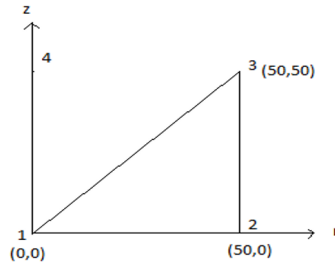

Figure 5
- (b) For element shown in Figure 5, determine the stiffness matrix. Assume axisymmetry condition. Take $E = 200$ GPa and $\nu = 0.25$. [7M]